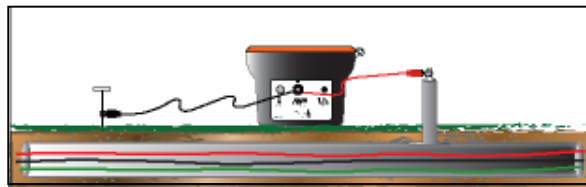

Figure 3-1: Clamping Black Lead to Ground Rod; Clamping Red Lead to Conductor
4. Push the ground rod into earth and clamp the **Black** lead to ground rod. Establish the best ground possible. **See Figure 3-1**
5. Clamp **Red** lead to target conductor sheath. See Figure 3-1